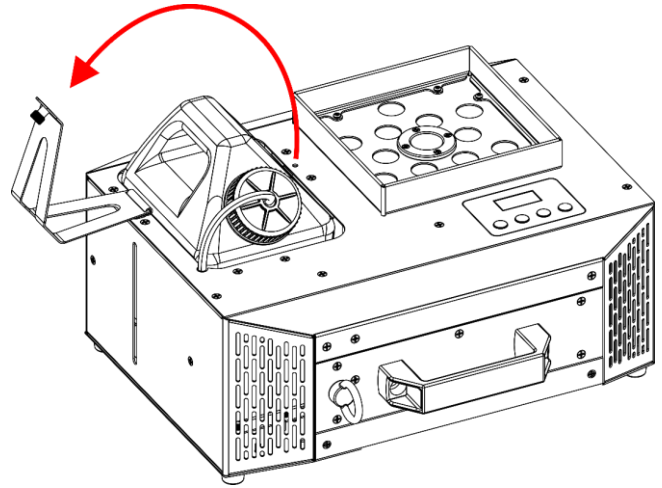

Fig. 39
- 03) Tilt the **bracket for liquid tank (03)**, as shown in Fig. 39.